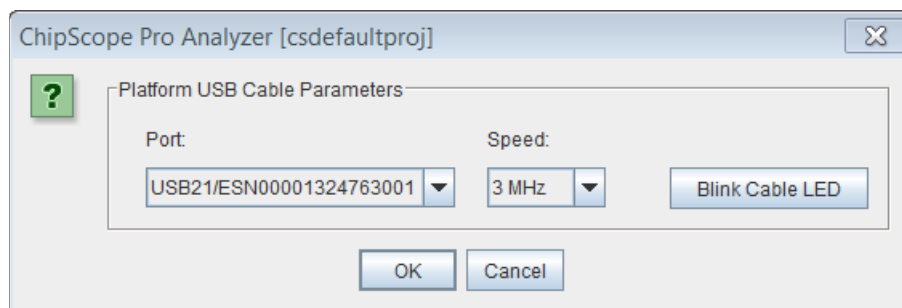

Figure 4: ChipScope Pro Analyzer Settings
4. Confirm the connection to the JTAG chain by verifying the information that appears in the bottom pane of the ChipScope Pro Analyzer window, as illustrated in Figure 4.